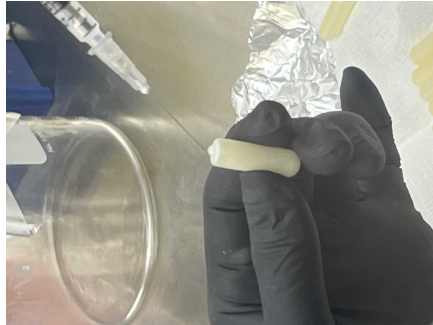

Figure 4. Solution Conservation.
- If working with an expensive solution, you can conserve it by using your syringe to pipet the excess back up. This is shown in **Figure 4**.
Figure 4. Laparotomy and Thorax Exposing. This figure shows the necessary cuts for exposing the heart. Step 1 shows the performing of a laparotomy. Step 2 represents the cuts of the rib cage to expose the thorax.